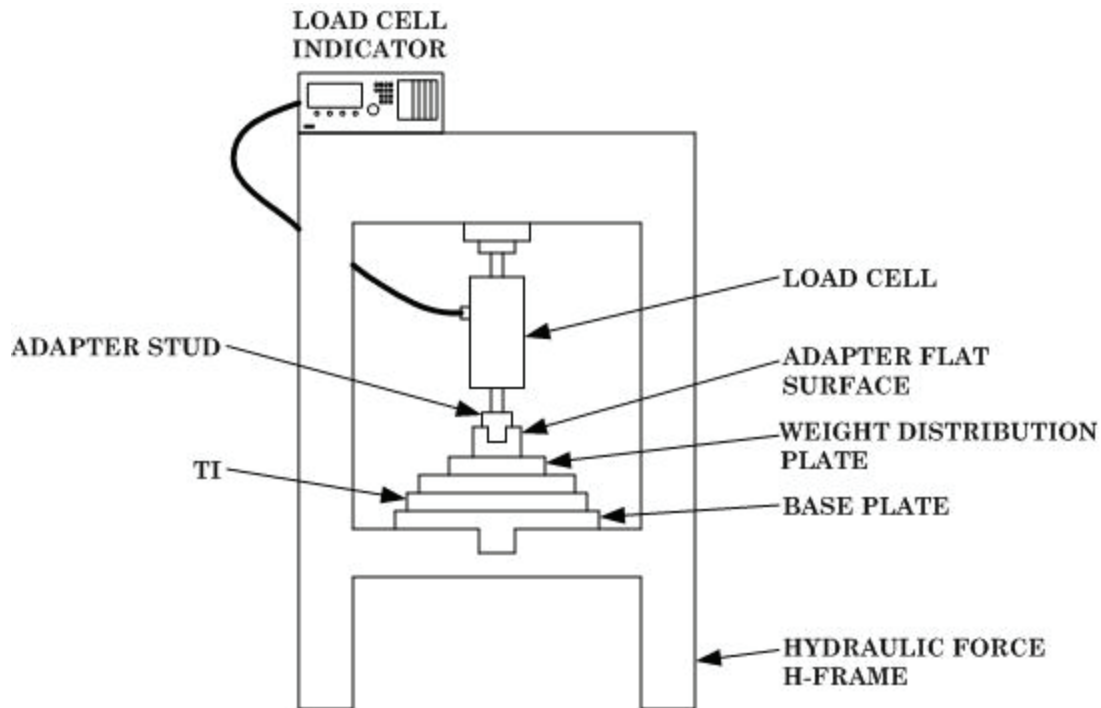

Figure 1. Weight calibration - equipment setup.
a. Assemble equipment as shown in figure 1.